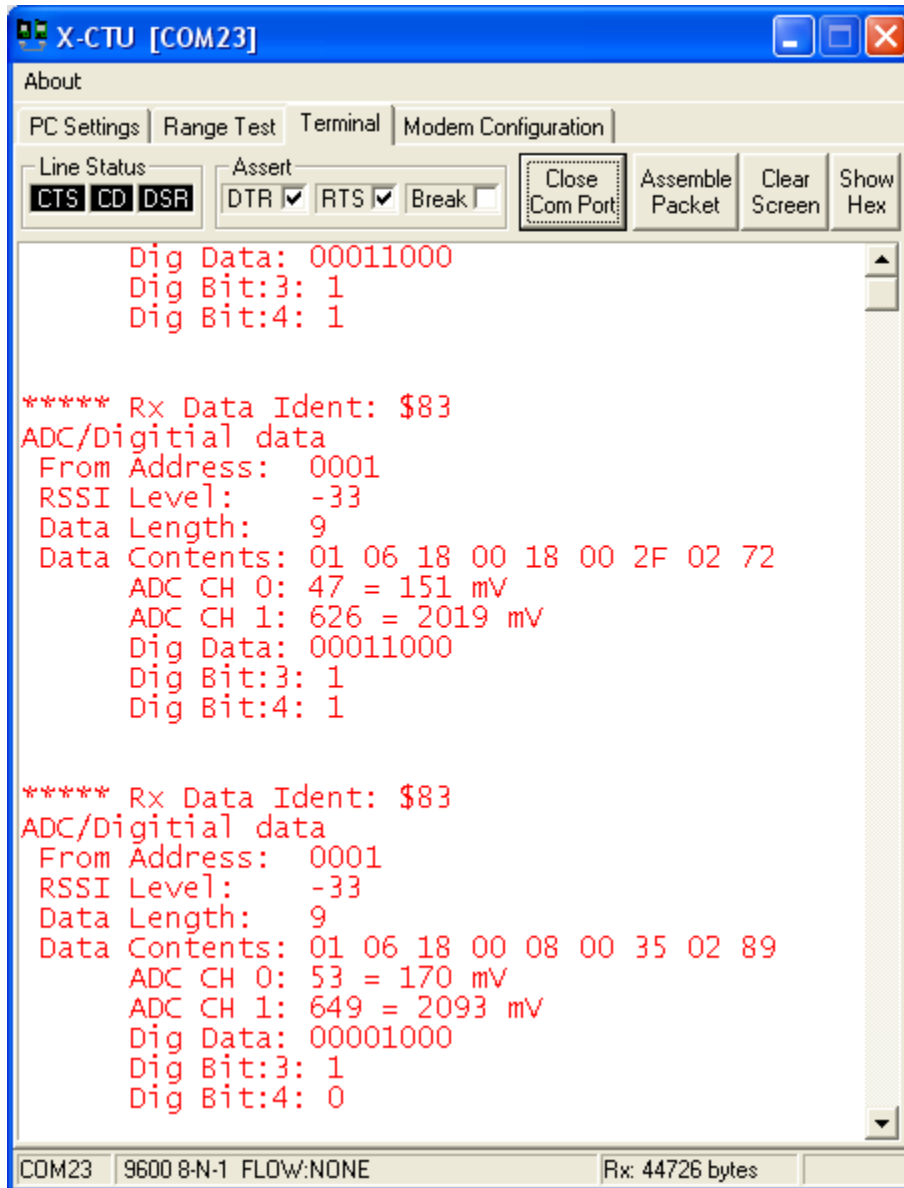

Figure 6-8: Analog and Digital Testing Results
- ✓ Information similar to Figure 6-8 should be displayed.